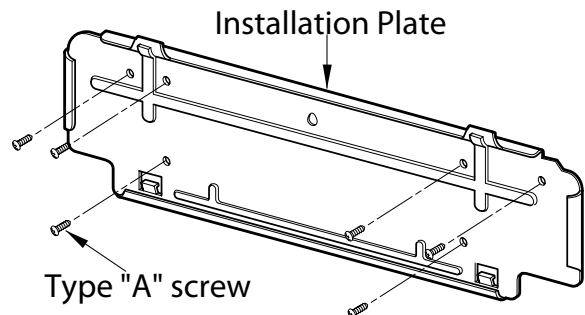

Figure 5: Secure Mounting Plate
4. Mount the installation plate on the wall with six Type A screws as shown in Figure 5. If installing on a concrete wall, use field-supplied concrete anchor bolts.